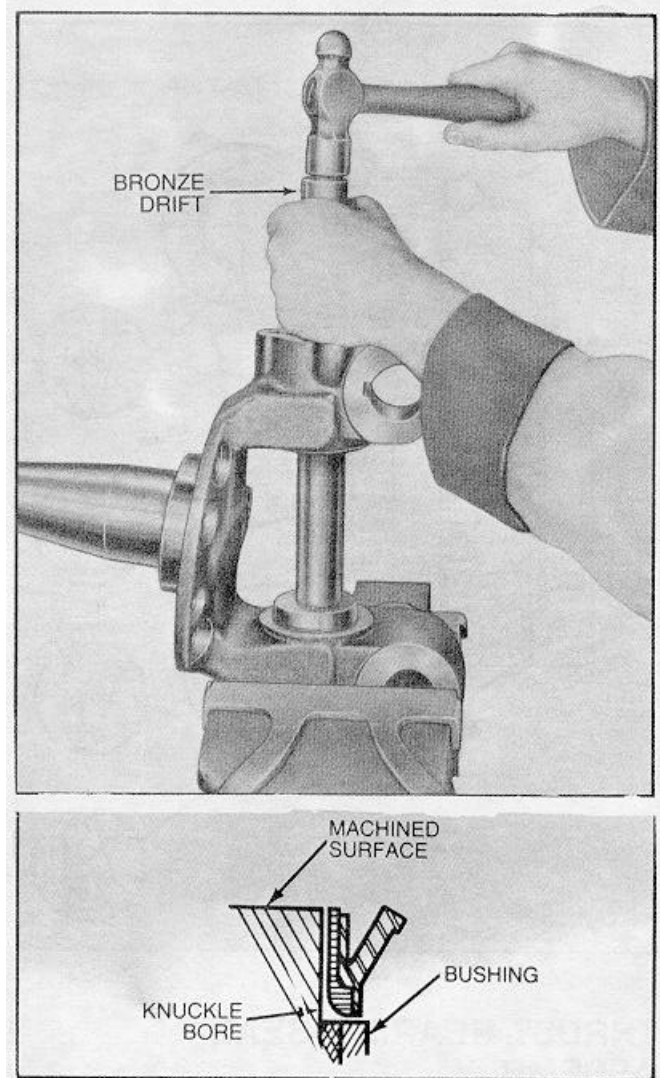

Figure 23
- B. Using a suitable sleeve and a bronze drift tap the seal into the knuckle bore until it is flush with the machined surface as shown in Figure 23.